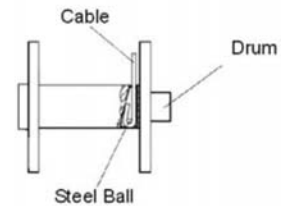

Figure 5
- 2.When inserting the steel cable into the drum, insert it into the correct end of the hole provided. (See Figure 5). Tighten the set screw securely.